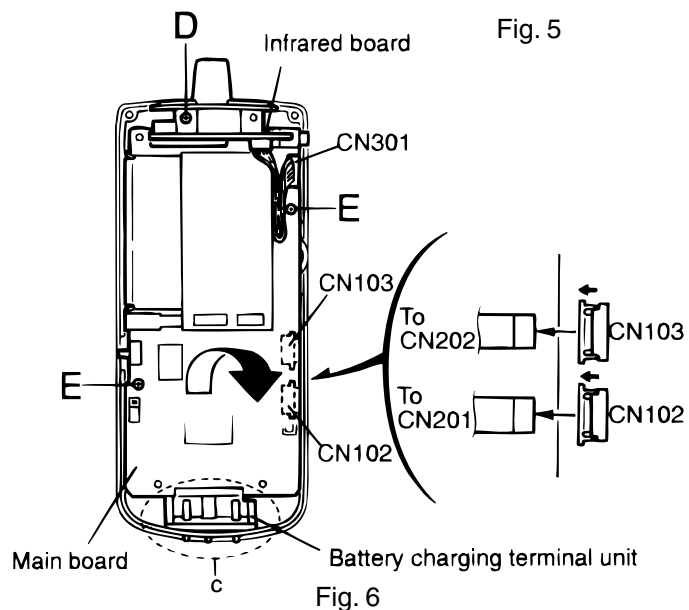

Fig. 6
4. Remove the screw at D fixing the infrared board (Refer to Fig. 6)
5. Unplug the infrared board connection cable from the CN301 connector on the main board. (Refer to Fig. 6)
6. Remove the two screws at E fixing the main board. (Refer to Fig.6)
8. If necessary, unplug the card wire from the CN102, and CN103 connectors on the main board (Refer to Fig.6)